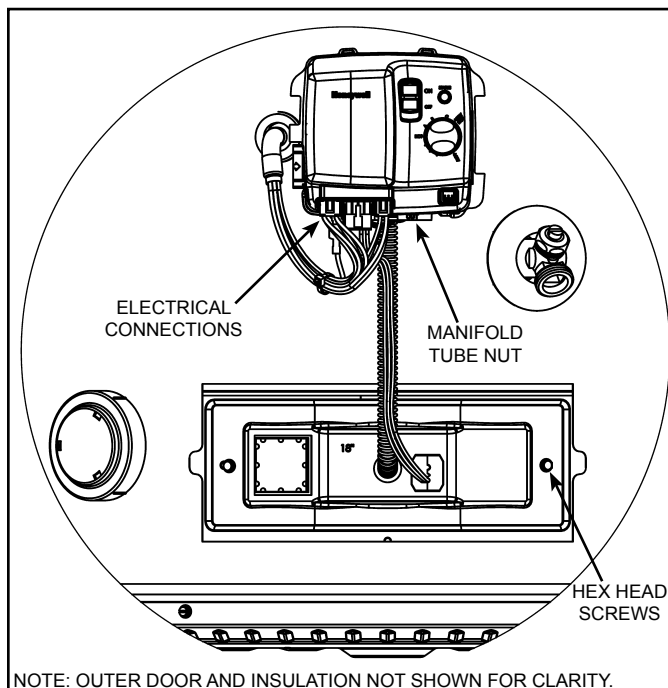

Figure 11
5. Unplug all the electrical connections from the bottom of the gas control valve/thermostat (see Figure 11).
6. Using a 3/4" open end wrench remove the manifold tube from the gas control valve/thermostat (turning counter-clockwise for natural gas, clockwise for L.P.). Grasp the manifold tube and push down slightly to free the manifold tube from the gas control valve/thermostat (see Figure 11).
8. Use a 1/4" nutdriver or 1/4" socket & ratchet to loosen the 2 hex head screws on the inner door so the inner door/manifold/burner assembly can be removed (see Figure 11).
2. After confirming no materials of any type are between door gasket and combustion chamber shield, align the screws on the inner door with the screw holes on the combustion chamber and tighten with 1/4" nutdriver or 1/4" socket & ratchet (see Figure 11). After tightening the inner door screws, visually inspect area around door gasket and skirt for spaces or gaps. The door gasket **MUST** be sealed completely in order for the water heater to perform properly. **DONOT OPERATE THE WATER HEATER IF THE DOOR GASKET DOES NOT CREATE A SEAL BETWEEN MANIFOLD DOOR AND COMBUSTION CHAMBER.**
Reconnect the manifold tube to the gas control valve/thermostat (**Note:** Do Not apply any thread sealant at this connection). To prevent any cross threading the manifold tube should be started by hand (turn clockwise for natural gas, counter-clockwise for L.P.). Upon tightening with the fingers and confirming it has not been cross threaded, tighten nut with an 3/4" open end wrench (see Figure 11).